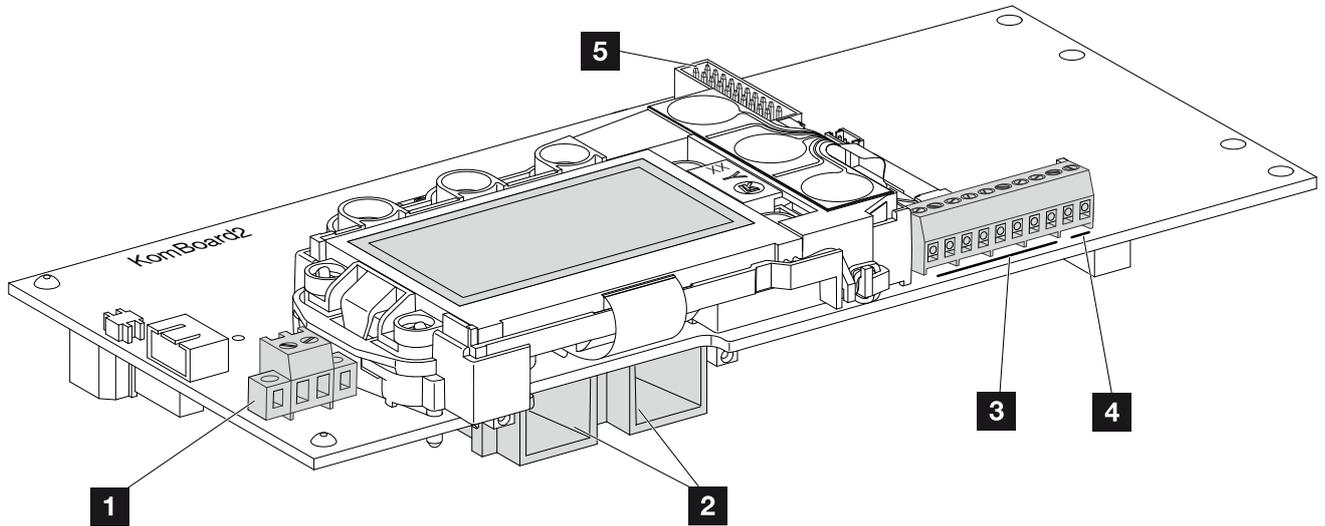

Fig. 39: Components of the communication board
6. Plug the sockets and plugs of the DC strings onto the inverter.  **Fig. 39**